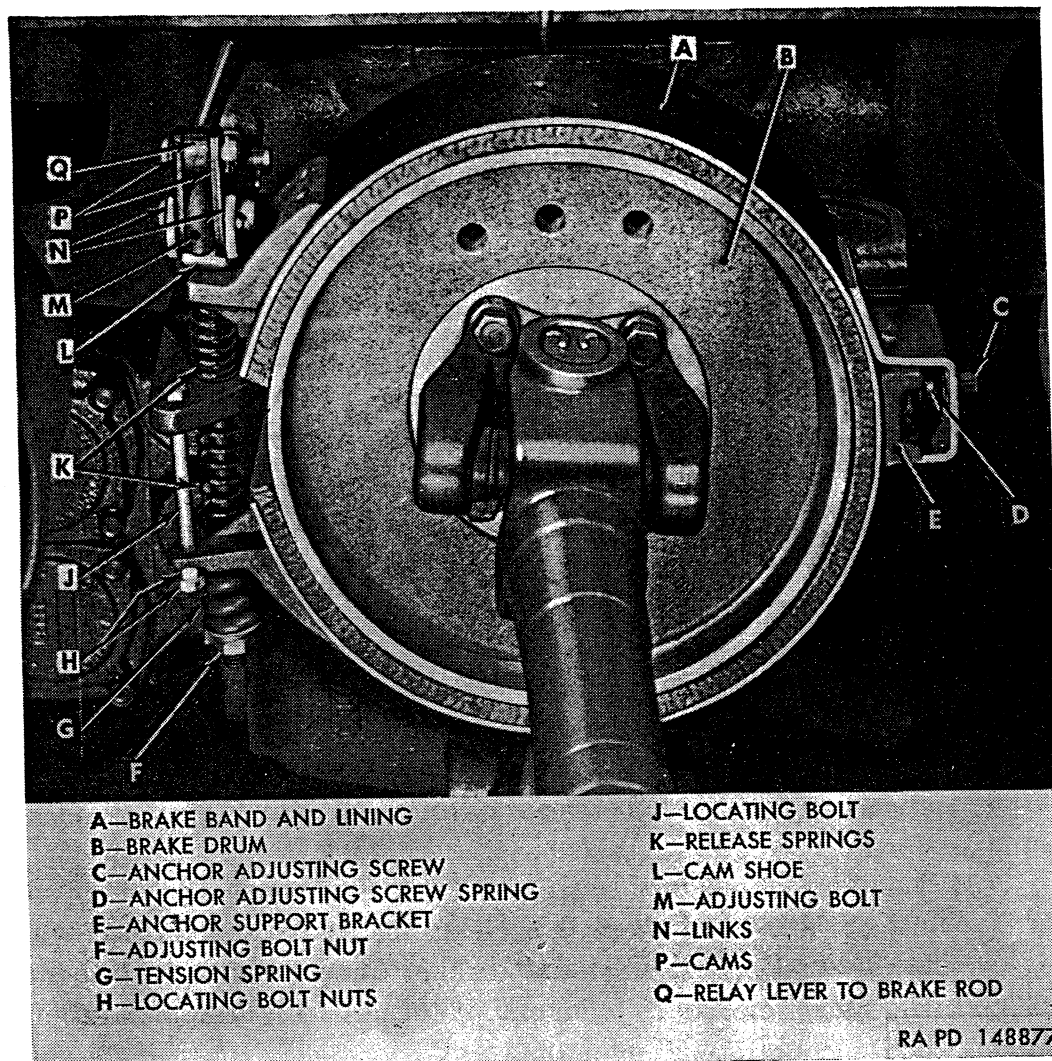
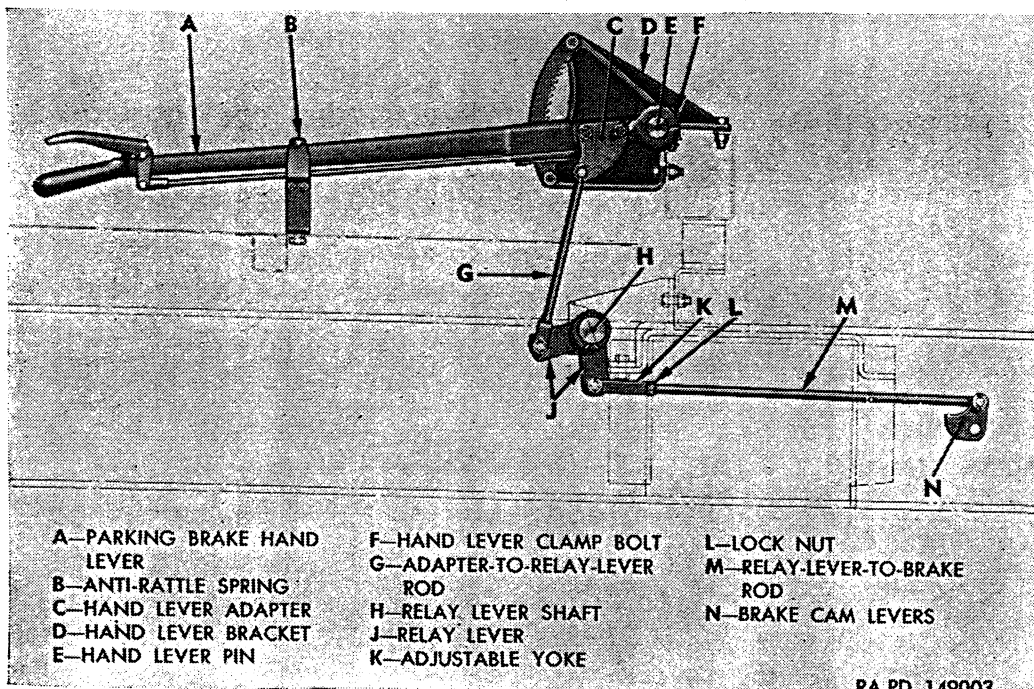

Figure 260. Parking brake drum, band, and linkage installed on transfer.
Figure 261. Parking brake linkage.
a. *Mechanical Parking Brake*. Mechanical parking brake is an external-contracting one-piece band-type brake, located at rear of transfer assembly (fig. 260). Parking brake drum is installed between transfer-to-pillow-block propeller shaft flange and transfer output shaft flange. Brake band and lining assembly is supported around drum by a support bracket and anchor bracket which are integral with the transfer output gear bearing retainer. Parking brake hand lever (A, fig. 261) located at right of driver in cab, operates brake band through a relay lever and interconnecting rods.
- (1) Block wheels to prevent vehicle moving. Place hand lever in fully released position. Disconnect brake rod adjustable yoke (K, fig. 261) from relay lever by removing cotter pin and clevis pin.
- (2) Remove lock wire from anchor adjusting screw (C, fig. 260). Turn anchor adjusting screw as necessary to obtain a clearance of 0.015 inch between lining and drum. Install lock wire.
- (3) Loosen locknut on locating bolt (J, fig. 260). Draw up locating bolt until there is a clearance of 0.020 inch between lower end of lining and brake drum. Measure about 1½-inches clearance from end of lining. Tighten locknut on locating bolt.
- (4) Loosen locknut on adjusting bolt (M, fig. 260). Draw up adjusting bolt to obtain a clearance of 0.020 inch between upper end of lining and brake drum. Measure about 1½-inches clearance from end of lining. Tighten locknut on adjusting bolt.
- (5) Adjust yoke (K, fig. 261) on brake rod so that clevis pin may be freely inserted through yoke and relay lever. Install clevis pin and cotter pin, then tighten lock nut against yoke. Remove blocks from wheels.
(fig. 260)
(fig. 261)